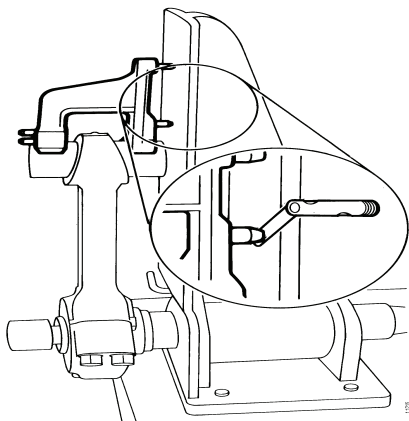

Figure 5-47
5. Place the gauge as shown in **Figure 5-47**. Use a feeler gauge to measure clearance between one gauge pin and the gauge surface to check connecting rod bend.